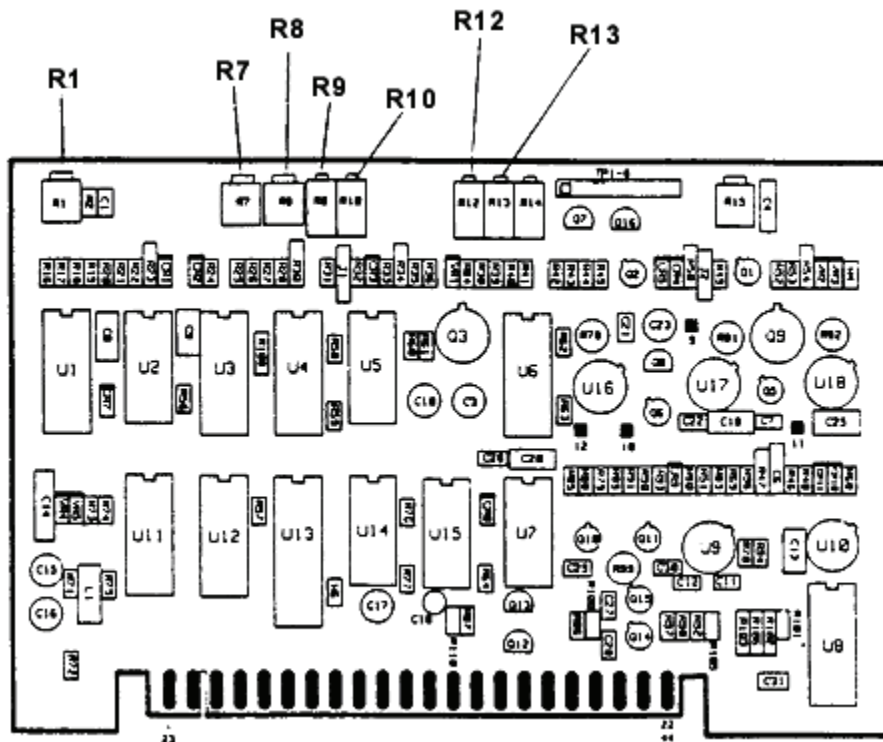
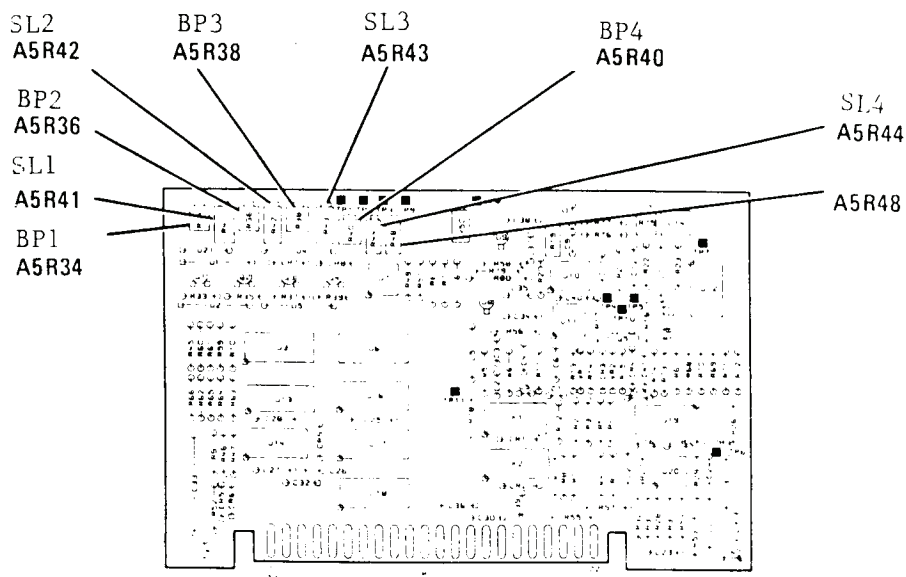

Figure 11. A4 board adjustment locations.
Figure 12. A5 board adjustment locations.
(3) Connect power meter to **RF OUTPUT**. Record power meter indication.
(4) Press **RECALL** key and enter data 2 on keyboard. Adjust A4R1 (fig. 11) for power meter indication of equal difference from -5 dBm as the value recorded in (3) above but in the opposite direction (example: if (3) above is -4.9 dBm then A4R1 is adjusted for -5.1 dBm) (R).
- (5) Press **RECALL** key and enter data **1** on keyboard. Adjust A4R13 (fig. 11) for power meter indication of -5.0 dBm (R).
- (6) Press **RECALL** key and enter data **4** on keyboard. Record power meter indication.
- (7) Press **RECALL** key and enter data **3** on keyboard. Adjust A4R9 (fig. 11) for power meter indication of equal difference from +3 dBm as the value recorded in (6) above but in the opposite direction (R).
- (8) Disconnect power meter from **RF OUTPUT**. Connect 10 dB attenuator to **RF OUTPUT** and connect power meter to attenuator.
- (9) Press **RECALL** key and enter data **5** on keyboard. Add power meter indication to exact value of attenuator (at 50 MHz) and record.
- (10) Press **RECALL** key and enter data **6** on keyboard. Adjust A4R7 (fig. 11) for power meter indication plus attenuator value (at 2.2 GHz) of equal difference from +10 dBm as the value recorded in (9) above but in the opposite direction (R).
- (11) Press **RECALL** key and enter data **2** on keyboard. Record power meter indication.
- (12) Adjust **FREQUENCY VERNIER** control to tune TI output frequency to the start of band 2 (approximately 2.5 GHz).
- (13) Adjust A4R12 (fig. 11) for power meter indication equal to value recorded in (11) above (R).
- (14) Press **RECALL** key and enter data of **3** on keyboard. Record power meter indication.
- (15) Repeat (12) above.
- (16) Adjust A4R10 (fig. 11) for power meter indication equal to value recorded in (14) above (R).
- (17) Press **RECALL** key and enter data **6** on keyboard. Record power meter indication.
- (18) Repeat (12) above.
- (19) Adjust A4R8 (fig. 11) for power meter indication equal to value recorded in (17) above (R).
- (20) Repeat (1) through (19) above until no further adjustment is required.
- (21) Connect **SWEEP OUTPUT** to oscilloscope **CH2** input.
- (22) Connect semiconductor device to **RF OUTPUT** and connect oscilloscope **CH1** input to semiconductor device.
- (23) Press function keys and enter corresponding data on keyboard as listed in (a) through (e) below:
- (e) **RF BLANK (ON).**
(24) Set oscilloscope for an X versus Y operation and adjust controls as necessary to display the TI output.
(25) Set A5R34, A5R36, A5R38, and A5R40 (fig. 12) fully cw.
(26) Adjust A5R48 (fig. 12) for best overall trace flatness as displayed on oscilloscope (R).
(27) Adjust BP (breakpoint) and SL (slope) adjustments listed in table 8 for best overall trace flatness as displayed on oscilloscope.
BP adjustment (fig. 12)	SL adjustments (fig. 12) (R)